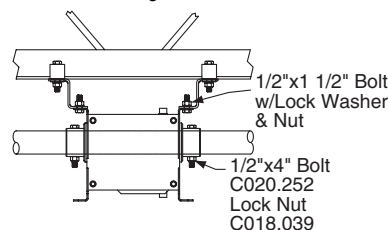

Figure 4
- ⑧ Drill drive pipe to secure to motor. Match up with pre-drilled holes in motor output and bolt as shown in Fig. 4.